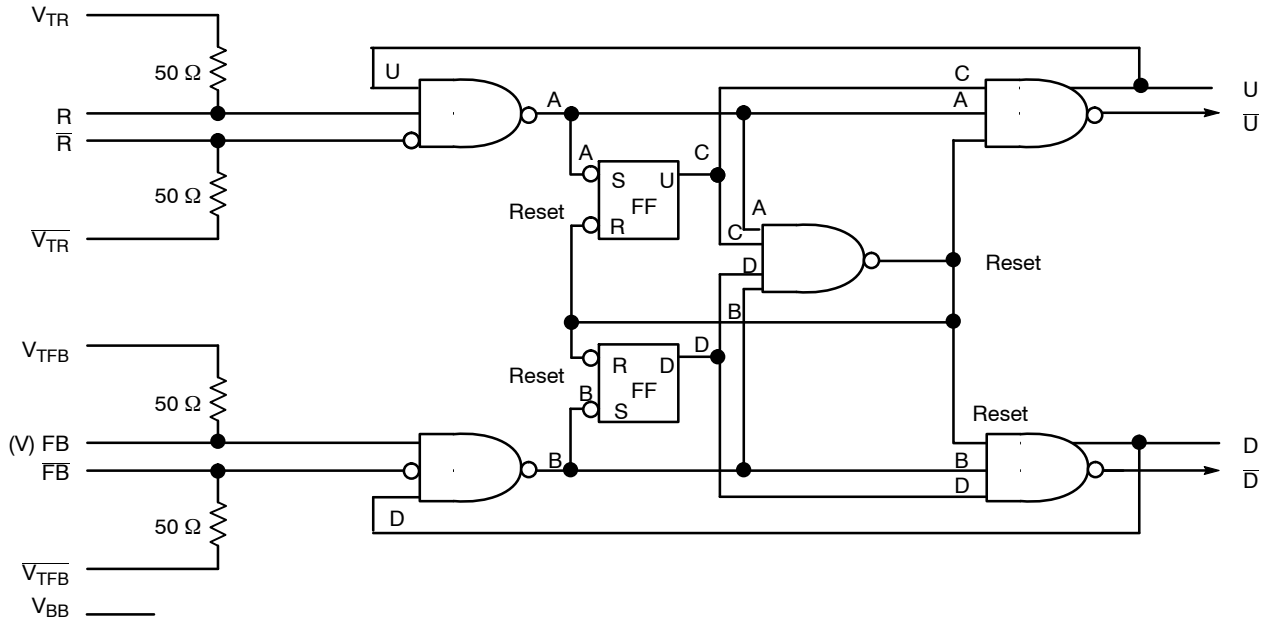

Figure 2. Logic Diagram
When Reference (R) and Feedback (FB) inputs are 80 ps or less in phase difference, the Phase Lock Detect pin will indicate lock by a high state ( $V_{OH}$ ). The  $V_{TX}$  ( $V_{TR}$ ,  $\overline{V_{TR}}$ ,  $V_{TFB}$ ,  $\overline{V_{TFB}}$ ) pins offer an internal termination network for 50  $\Omega$  line impedance environment shown in Figure 2. An external sinking supply of  $V_{CC}-2$  V is required on  $V_{TX}$  pin(s). If you short the two differential pins  $V_{TR}$  and  $\overline{V_{TR}}$  (or  $V_{TFB}$  and  $\overline{V_{TFB}}$ ) together, you provide a 100  $\Omega$  termination resistance. For more information on termination of logic devices, see AND8020.